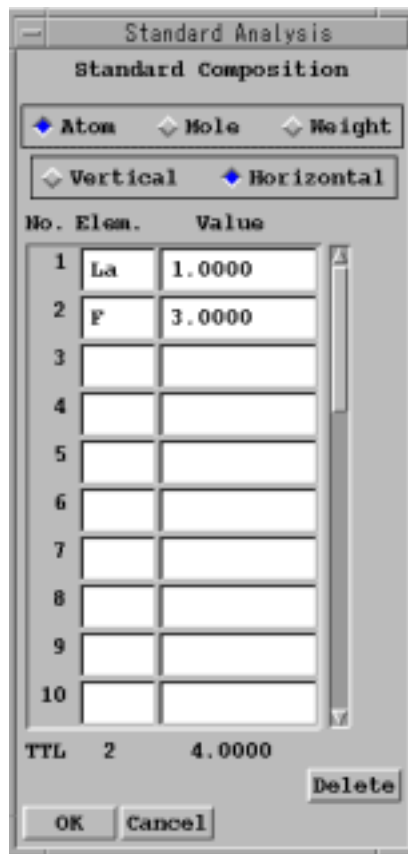

Fig. 10 Standard Composition window
The Standard Composition window opens as shown in Fig. 10.
- b. Enter element names in the Elements (**Elem.**) input boxes using the keyboard. In the **Value** input boxes at the right of the **Elem.** input boxes, key in the values corresponding to the selected button in Step a. (☞ Fig. 10.)